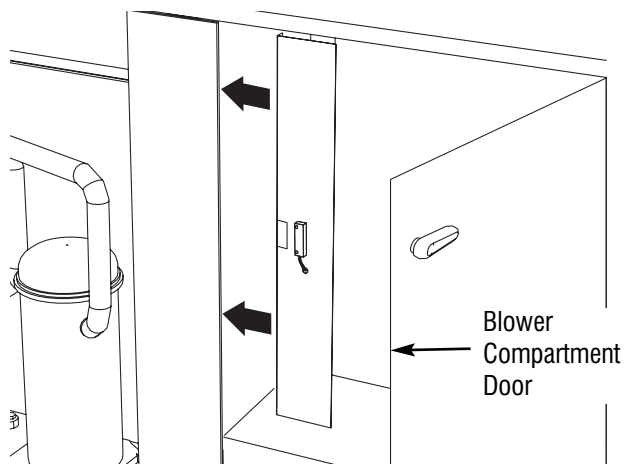

Fig. 10 Mount shield in blower compartment.
2. Mount blower compartment shield to frame with included sheet metal screws. (Fig. 10.) Position shield to the top of the compartment. Be sure to route safety interlock switch cord through grommet.